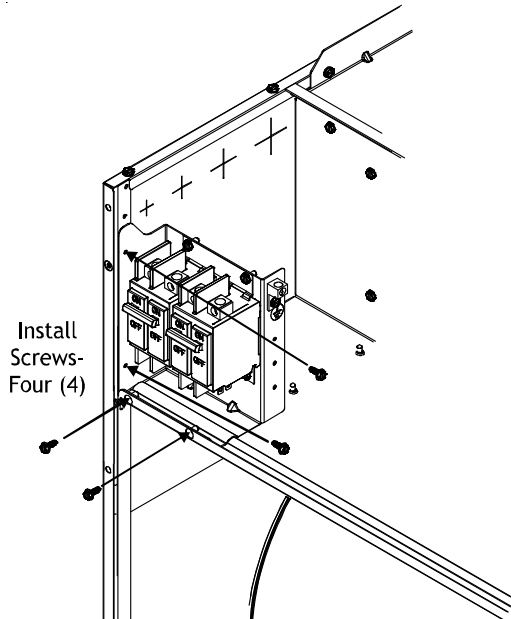

Figure 3
- For all electric heat kits with circuit breakers, mount the circuit breaker mounting bracket as shown in Figure 3, using the supplied screws. Insert the four (4) screws as shown in Figure 3 (two through the control panel flange and two into the cabinet corner post).